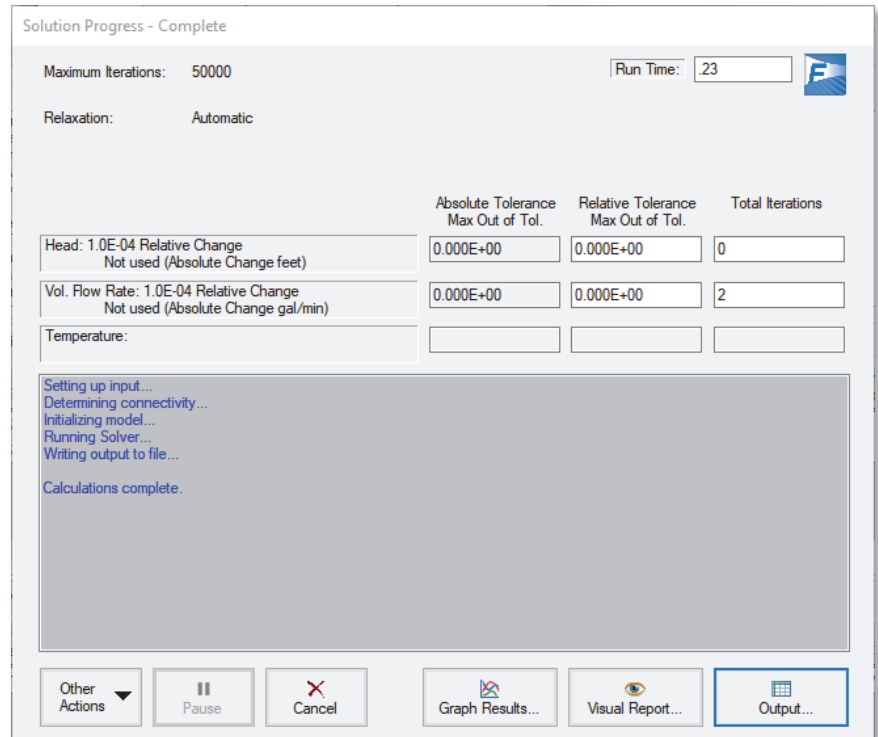
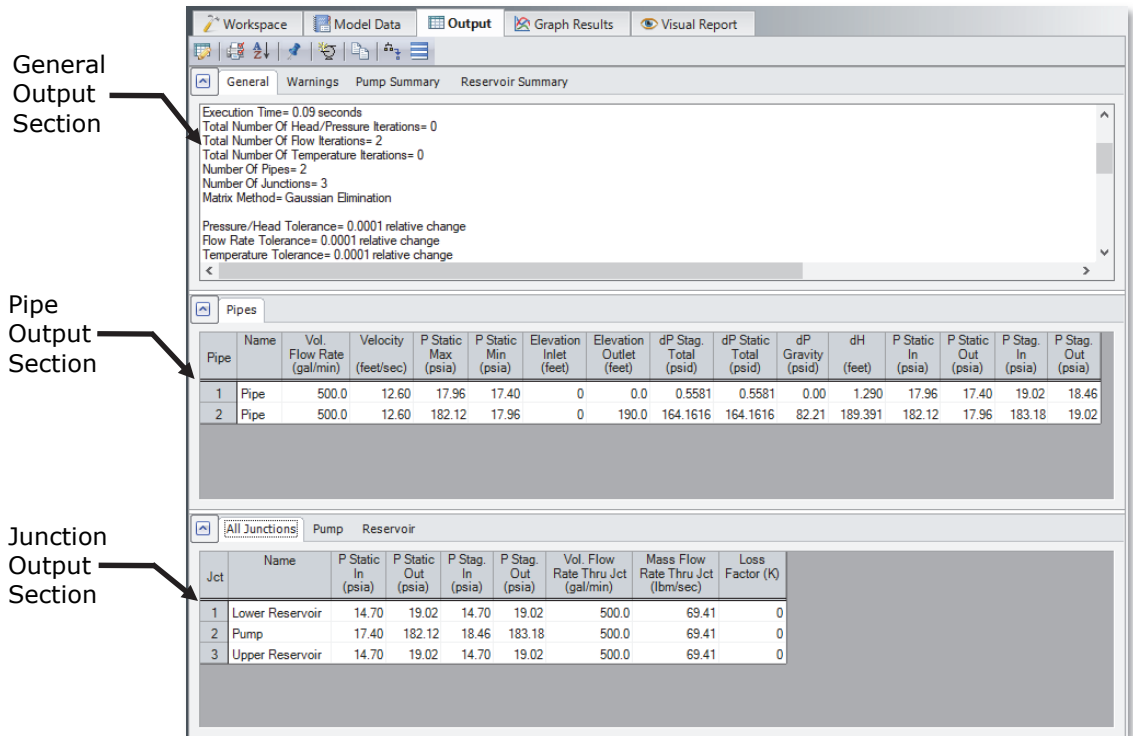

Figure 2.15 The Solution Progress window displays the convergence progress
Figure 2.17 The Output window displays output in text form
- **Choose “Run Model” from the Analysis menu** or click the arrow icon on the Main Toolbar. During execution, the Solution Progress window displays (see Figure 2.15). You can use this window to pause or cancel the Solver's activity. When the solution is complete, click the Output button and the text-based Output window will appear (see Figure 2.17). The information in the Output window can be reviewed visually, saved to file, exported to a spreadsheet-ready format, copied to the clipboard, printed to an Adobe PDF file, or printed out on the printer.
The Output window (Figure 2.17) is similar in structure to the Model Data window. Three areas are shown, and you can expand or collapse each area by dragging the boundary between the areas up or down or by clicking the arrow beside the area label. The items displayed in the tables are those items you chose in the Output Control window.